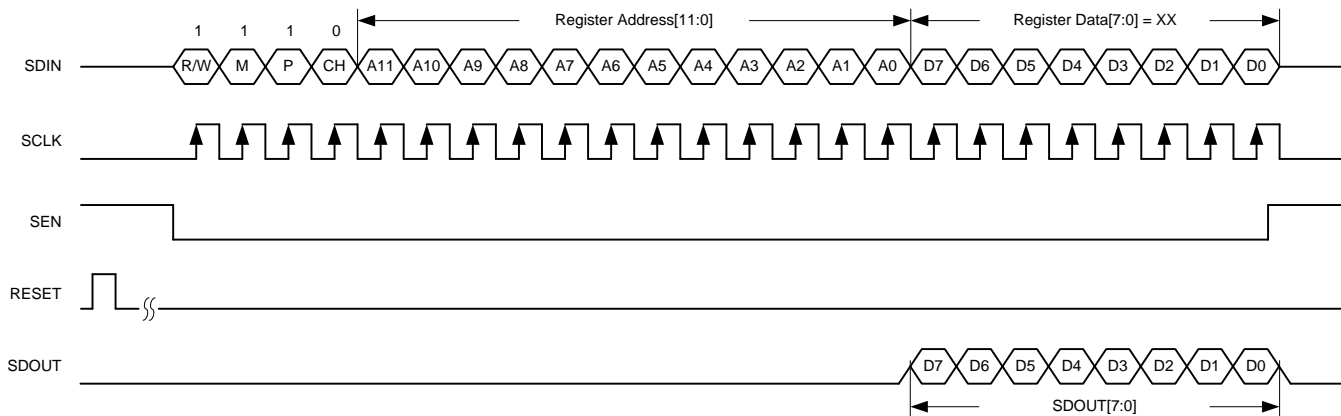

Figure 70. JESD Serial Register Read Timing Diagram
4. Read back the register content on the SDOUT pin; see Figure 70. When a page is selected, multiple read backs from the same page can be done.